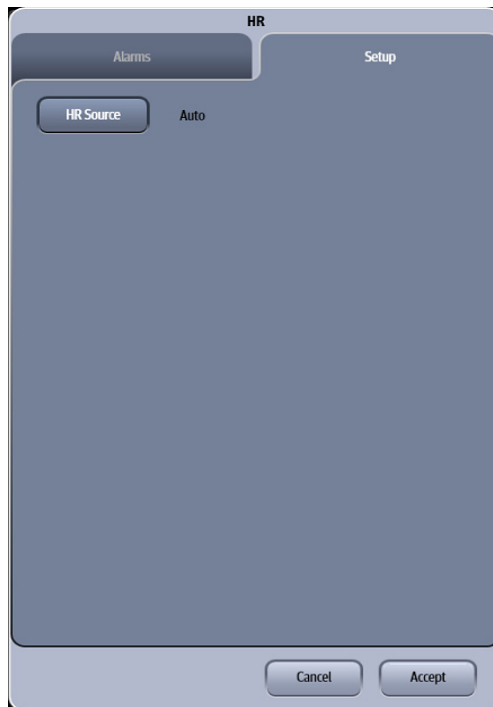

FIGURE 12-2 Example HR Dialog (Setup Tab)
2. Select the **Setup** tab (as shown in FIGURE 12-2).